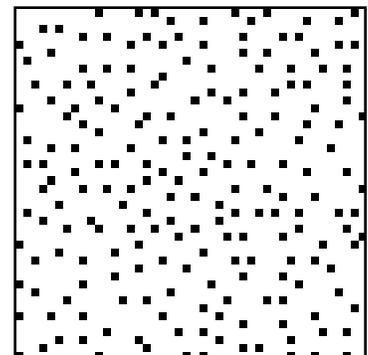

Figure 2 – Artist's conception of frequency modulated screening (heavily magnified).
All of this changes with frequency modulated (FM) screening. Frequency modulated means that the screen frequency (i.e., the screen ruling) actually changes throughout the image. This throws the entire concept of angle and ruling on it's head. Screen angle and ruling are gone, and what is left is a random collection of laser spots built directly on the grid of the imagesetter. (See Figure 2.) Frequency modulated screening may also be called random screening, random dithering, or stochastic screening. (Stochastic is a mathematical term describing randomness.)